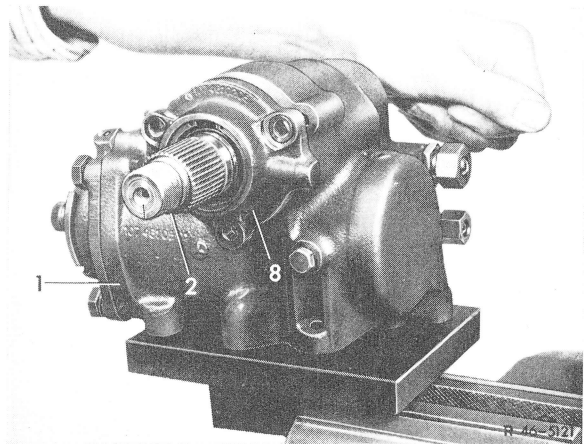

Fig. 5
- 5 Remove housing cover (8) from pitman shaft (2) (Fig. 5 and 7).